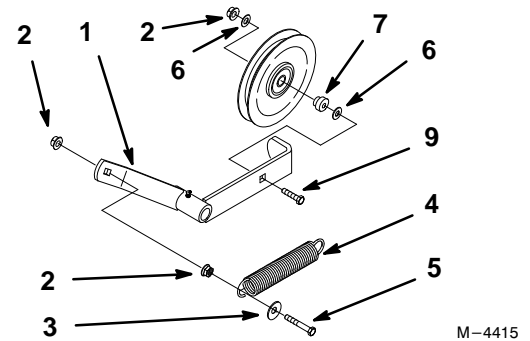

Figure 7
4. Remove the pulley, bushing, and hardware from idler arm (Old idler arm not shown) (Fig. 7).
1. Route new belt onto the rear idler pulley. Install pulley and belt to new rear idler arm using existing hardware (Fig. 7).
2. Install spring to rear idler arm. Use existing hardware and new flat washer included in kit. (Fig. 7).